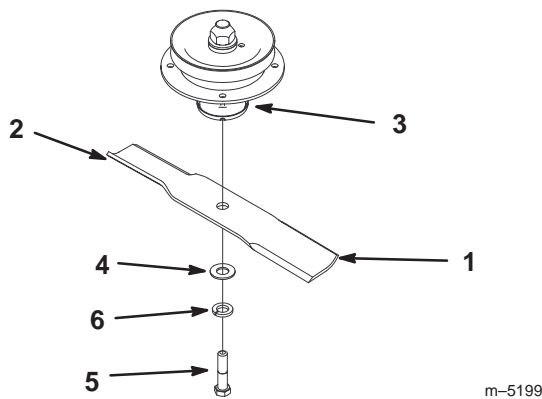
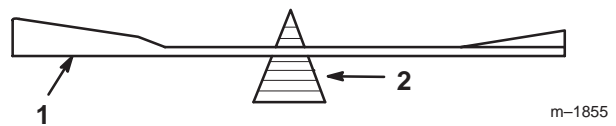

Figure 46
Figure 48
1. Hold the blade end using a rag or thickly-padded glove. Remove the blade bolt, washer, lock washer and blade from the spindle shaft (Fig. 46).
2. Check the balance of the blade by putting it on a blade balancer (Fig. 48). If the blade stays in a horizontal position, the blade is balanced and can be used. If the blade is not balanced, file some metal off the end of the sail area only (Fig. 46). Repeat this procedure until the blade is balanced.
1. Install the blade onto the spindle shaft (Fig. 46).
Important The sail part of the blade must be pointing upward, toward the inside of the mower to ensure proper cutting (Fig. 46).
2. Install the flat washer, lock washer and blade bolt (Fig. 46). Torque the blade bolt to 85–110 ft-lb (115–140 N•m).